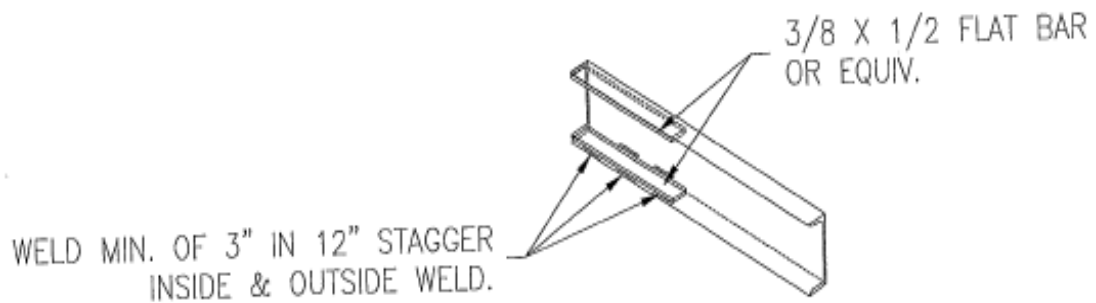

Figure 18
2. If runsills need longitudinal reinforcement, refer to instructions above and figure 18. We strongly recommended you use materials and methods shown.